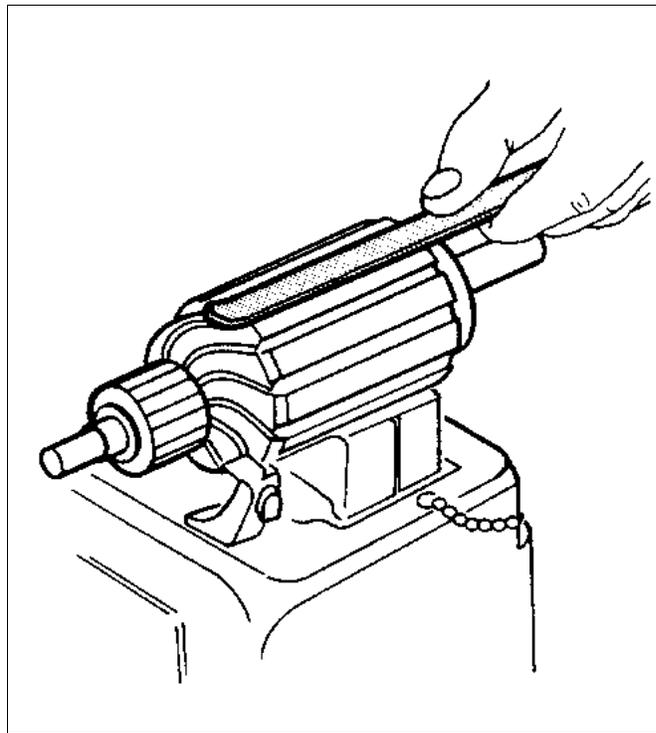

Figure 80-3. Testing Motor Armature for Shorts
- c. To test for shorted armature coils, a growler is used ( ref. Figure 80-3 ). The armature is placed on the growler and slowly rotated by hand while a steel strip is held over the core so that it passes over each armature core slot. If a coil is shorted, the steel strip will vibrate.